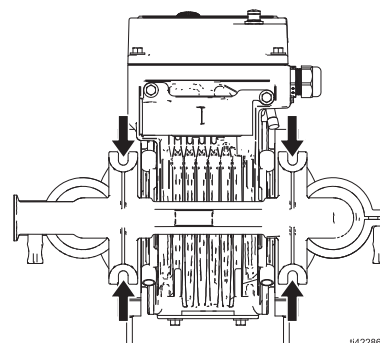

FIG. 6: Mounting Holes
Mount the pump to the mounting surface using fasteners through each hole of the feet. See FIG. 6.
3. For all mountings, be sure the pump is secured with fasteners through the mounting holes on the base. See FIG. 6. See **Dimensions**, starting on page 56.
To avoid pump damage, mount the pump to the mounting surface using fasteners through each hole of the feet. See FIG. 6.